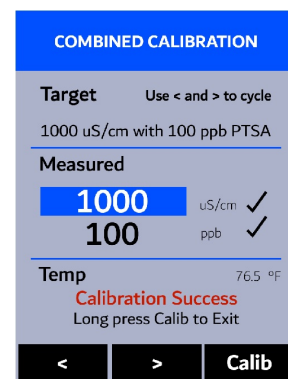

Figure 15.
10. Finally, the message “**Calibration Success**” will appear towards the bottom of the display (Figure 15).